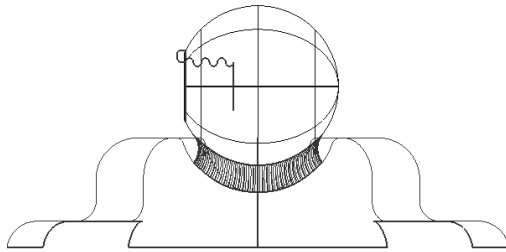

Figure 7-75 Stand of the camera created
13. Select three point arc; the stand of the camera with the set continuities is created, as shown in Figure 7-75.